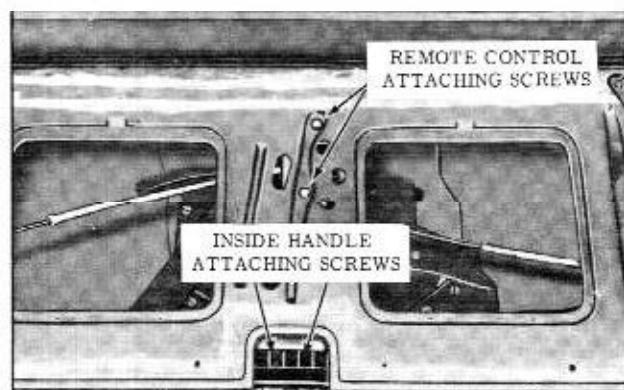

Fig. 17-199 Remote Control Removal
Removal and Installation (Fig. 17-199)
2. Loosen tail gate lock remote control attaching screws and move remote control towards bottom of tail gate sufficiently to disengage end of handle push rod from hole in remote control lever. (Fig. 17-199)
2. Disengage clips securing lock connecting rods to remote control and detach connecting rods from remote control. (Fig. 17-199)
IMPORTANT: If installing a new remote control assembly, remove cotter key at "A" in Fig. 17-199, after adjustment, to free locking lever.
lock; turn remote control lever adjusting screw until hole in lever is aligned with end of connecting rod (Fig. 17-199) Install connecting rod to lever.
4. Check operation of tail gate locking mechanism. To open tail gate when window assembly is removed, depress tail gate lock remote control locking lever through access hole and at the same time operate the tail gate remote control inside handle. (Fig. 17-199)